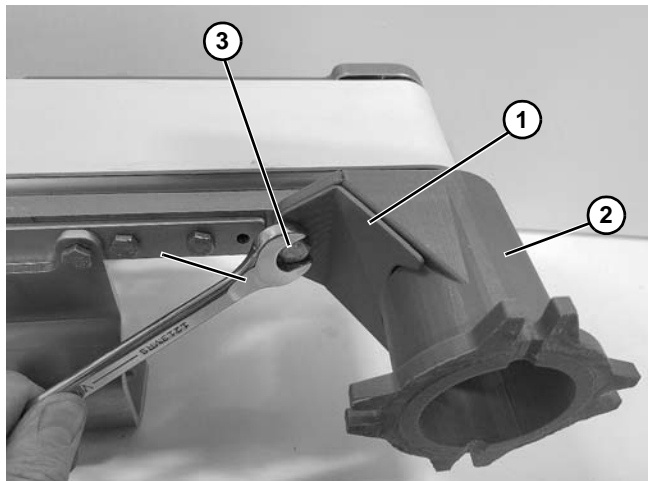

Figure 15
4. Attach angle guard (Figure 15, item 1) to mounting bracket (Figure 15, item 2) with screw (Figure 15, item 3).